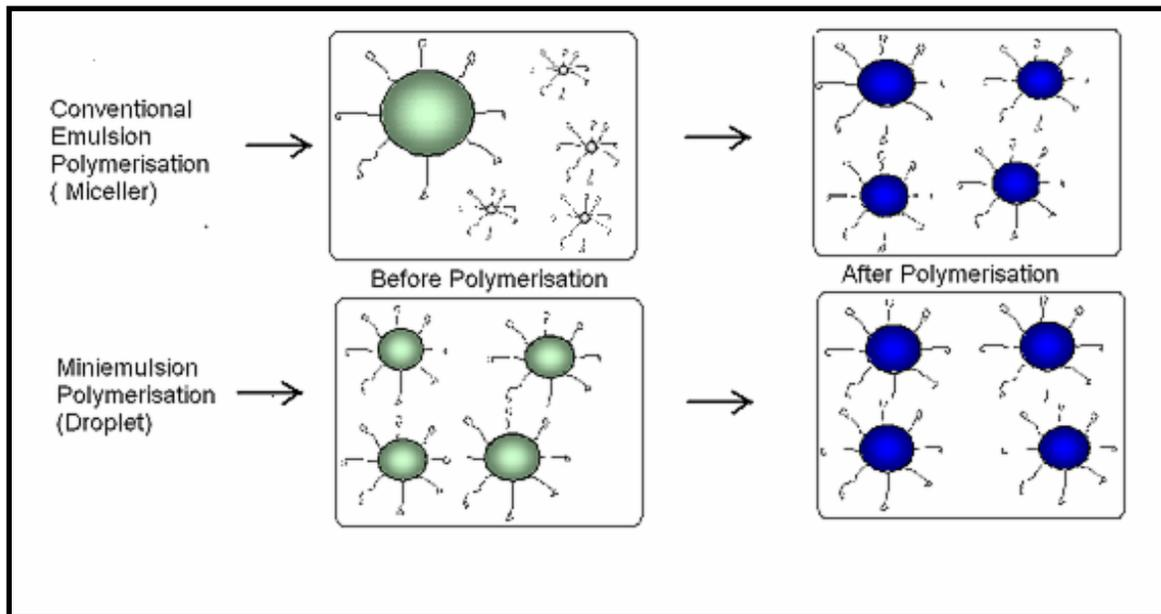

Fig 1: Particle formation in conventional and miniemulsion polymerization
- There should be no monomer transport process during polymerization which disrupts contact between the monomer and the clay particles. (Figure 1).